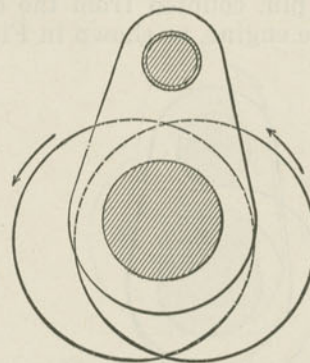

Fig. 181. Two Eccentrics, Lapped Valve, no rocker.
*A.* As in Fig. 181, where the forward eccentric is ahead of the crank pin, in the direction in which the engine is to run ahead,  $90^\circ$  plus an amount enough to bring the valve line-and-line for steam admission, at stroke end; the eccentric bellies pointing from the crank.